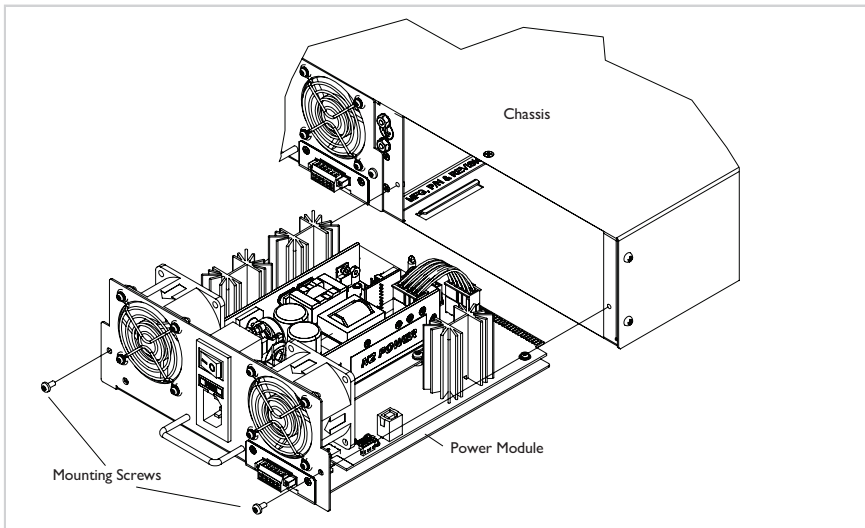

Figure 5: Power Module Installation
4. Position the Power Module at the chassis slot, as shown in Figure 5.